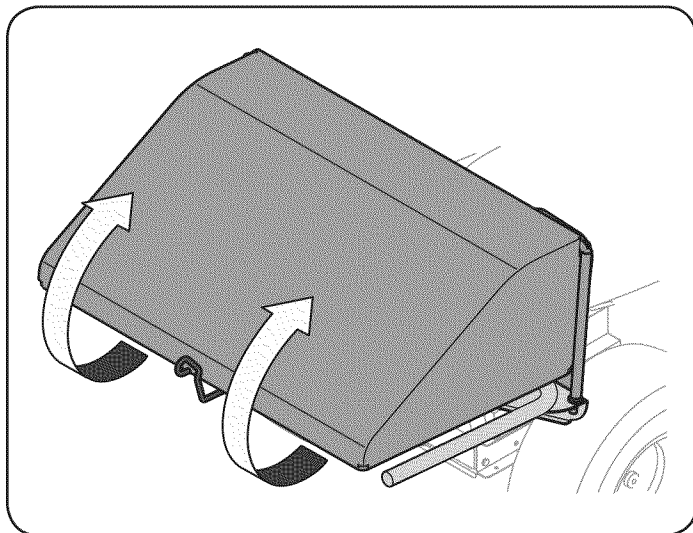

Figure 11
1. Open the grass bag cover by lifting the lower rear of the cover and pivoting it upwards. It is not necessary to remove the discharge chute in order to empty the grass bags. See Fig. 11.